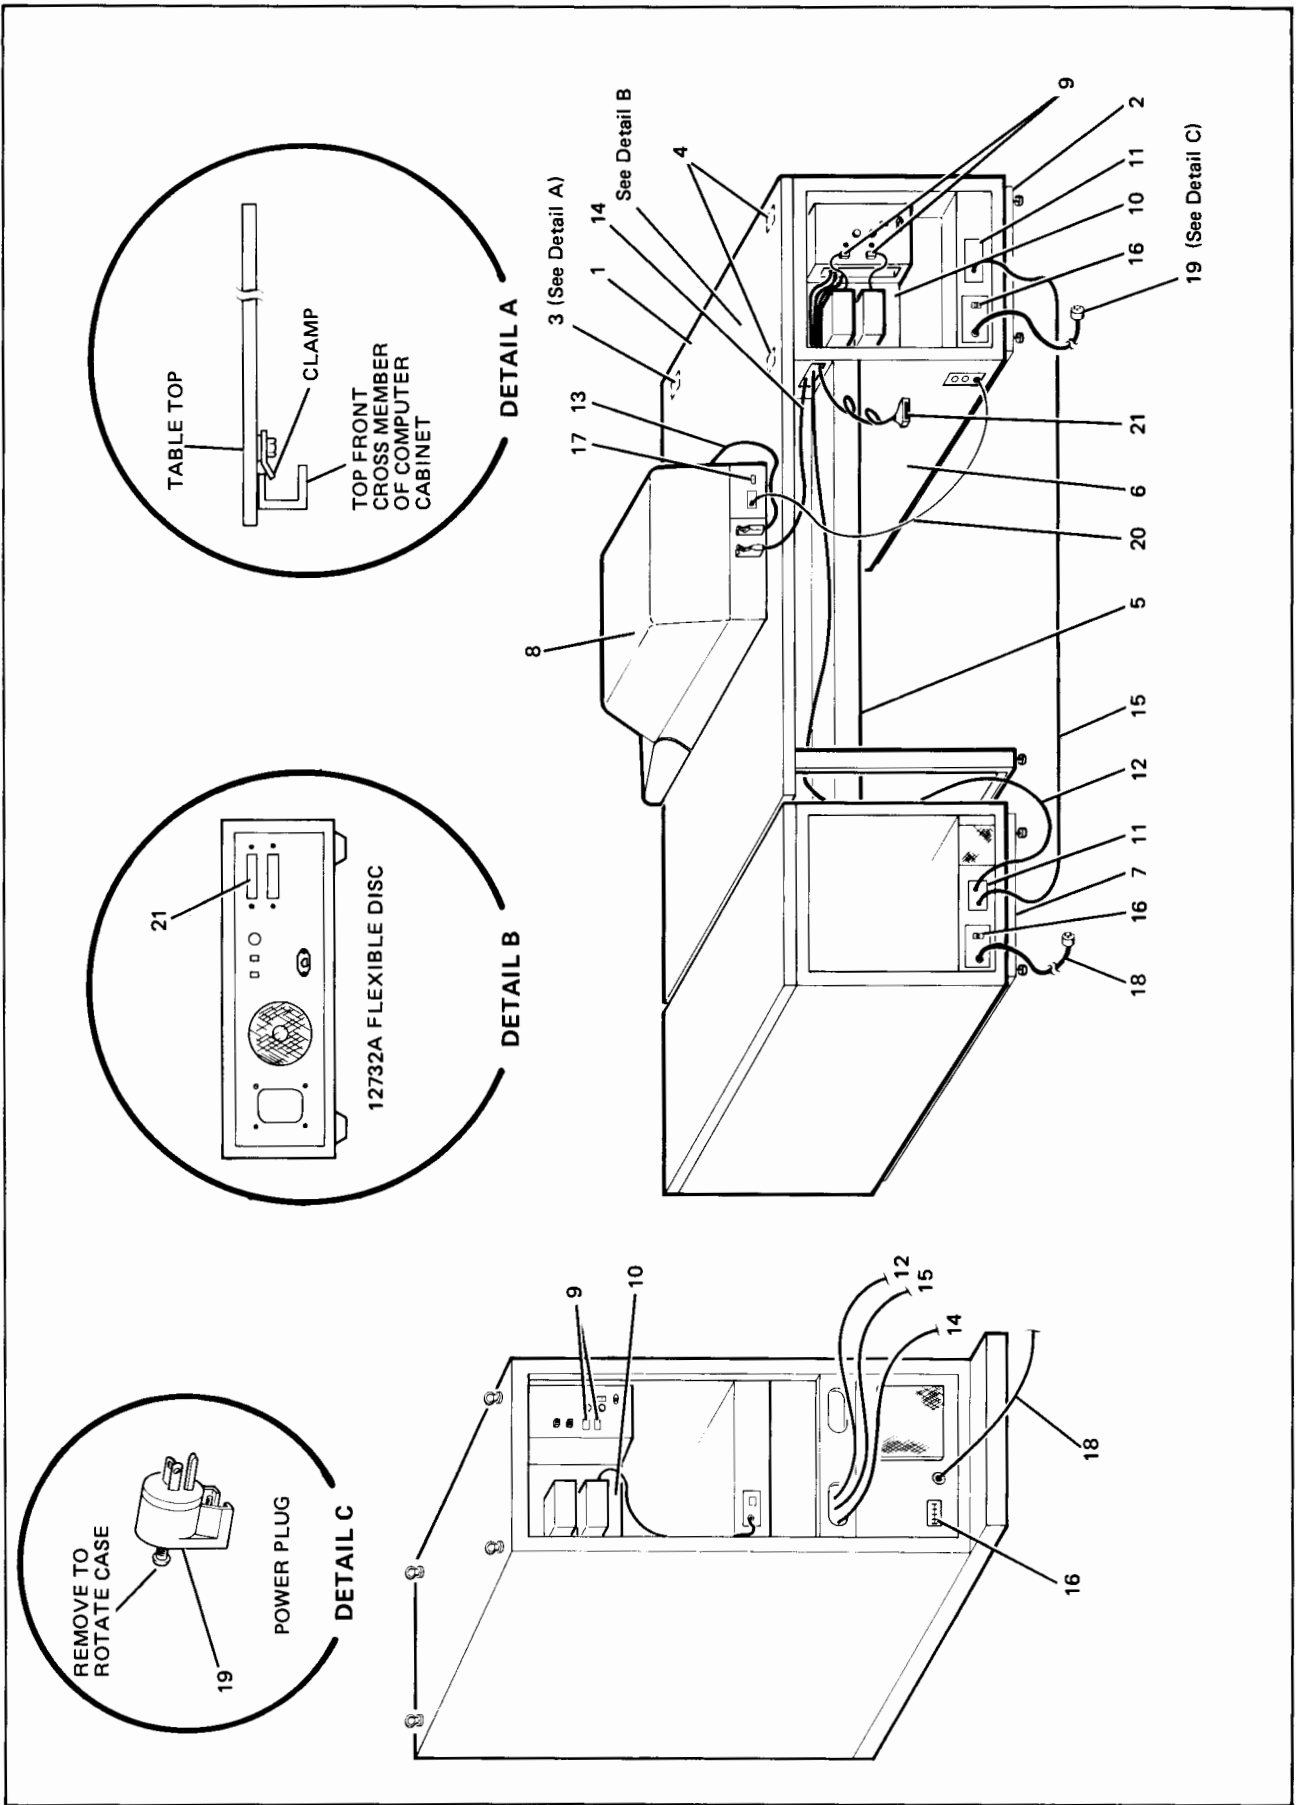

Figure 1-3. System Installation Details (Rear View)
- c. Carefully cut and remove the remainder of the support packaging (3) and lower the desk top onto the cabinet. Exercise care while cutting to avoid scratching the paint on the desk key or cable tray.
- d. Engage the two clamps on the bottom surface of the desk top with the top front crossmember of the cabinet frame as shown in figure 1-3 (detail A.)
- e. Using a 3/8-inch nutdriver, attach the bottom surface of the desk top to the mounting brackets (4) at the top rear of the cabinet with the two 1/4-20 x 5/16-inch screws supplied. The mounting hardware is located in a package taped to the bottom of the desk top assembly.
- f. Using a 5/16-inch nut driver attach the cable trough (5) to the side panel (6) of the computer cabinet with the two 10-32 x 1-inch screws supplied. Ensure that the cable trough is firmly bolted to the side panel before attempting to move the cabinet with the desk top attached.
Carefully move the disc cabinet into position as shown in figure 1-3. Adjust the levellers so that the cabinet is level with respect to the desk.
50 HERTZ INSTALLATIONS — Have the electrician install the customer furnished power wiring at this time. Refer to figures 1-3, 1-4, and 1-5 for wiring diagrams of the cabinets.
MULTI-PHASE 60 HERTZ INSTALLATIONS — Have the electrician install the customer furnished power wiring at this time. Refer to figures 1-3, 1-4, and 1-5 for cabinet wiring diagram. More detailed cabinet wiring information may be obtained from the *HP 29400B Series Cabinets Installation and Service Manual*, part no. 02940-90256.